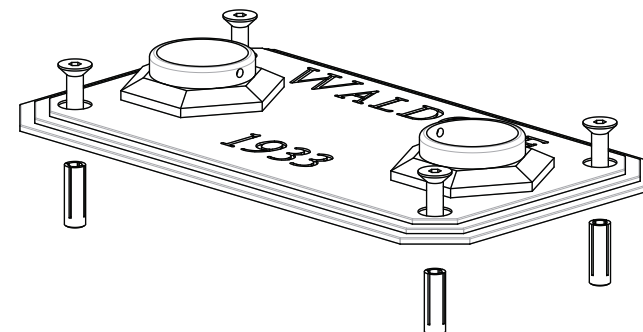

Fig. 4
- Drill  $\varnothing 10\text{mm}$  holes, insert the plugs on the floor and attach the plate with the screws - Fig 4;